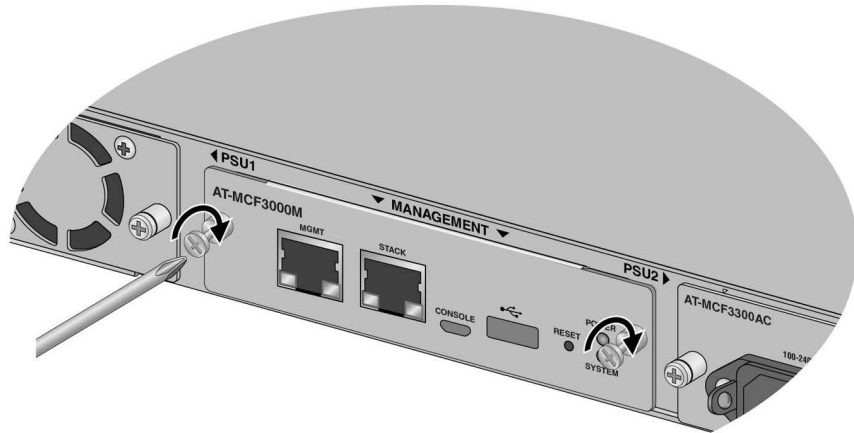

Figure 37. Tightening the Captive Screws on the MCF3000M Management Module
6. Tighten the two captive screws on the module with a cross-head screwdriver. Refer to Figure 37 on page 72.